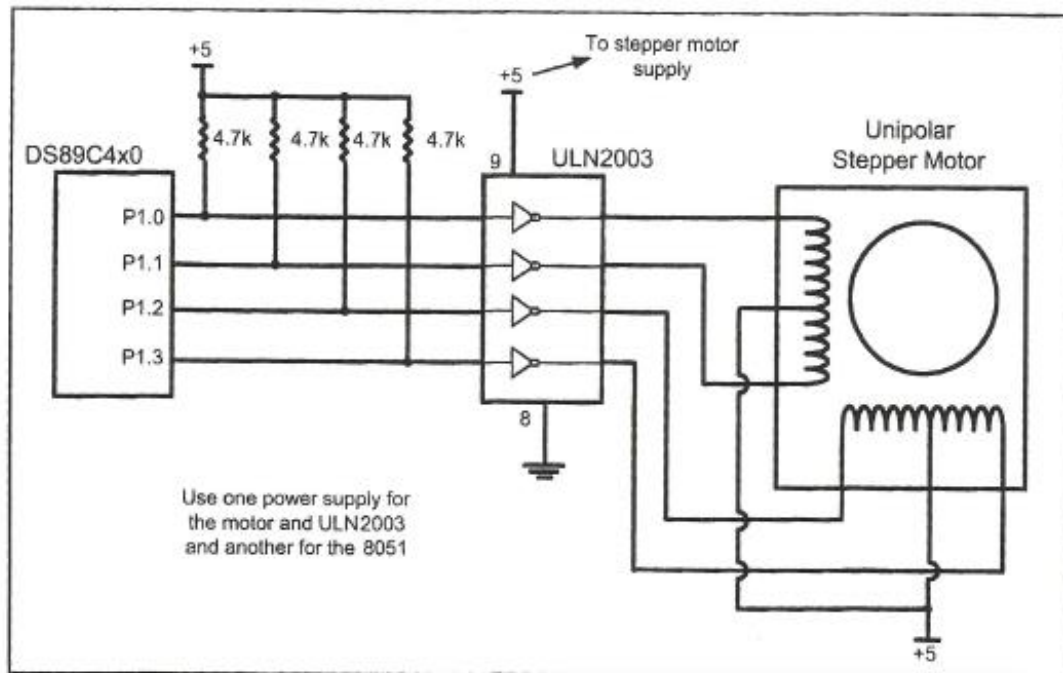

Figure 17-9. 8051 Connection to Stepper Motor
Describe the 8051 connection to the stepper motor of Figure 17-9 and code a program to rotate it continuously.
3. The four leads of the stator winding are controlled by four bits of the 8051 port (P1.0 - P1.3). However, since the 8051 lacks sufficient current to drive the stepper motor windings, we must use a driver such as the ULN2003 to energize the stator. Instead of the ULN2003, we could have used transistors as drivers, as shown in Figure 17-9. However, notice that if transistors are used as drivers, we must also use diodes to take care of inductive current generated when the coil is turned off. One reason that using the ULN2003 is preferable to the use of transistors as drivers is that the ULN2003 has an internal diode to take care of back EMF.